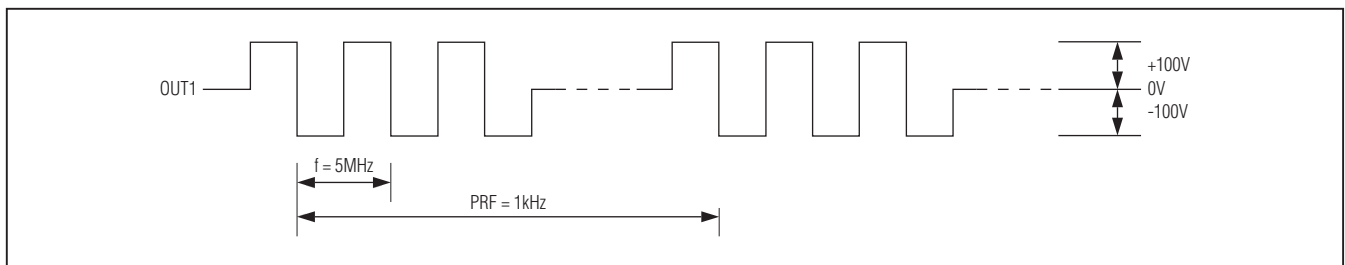

Figure 2. MAX4806 OUT1 Waveform
- 14) Verify that the signal on the OUT1 pad is similar to the waveform shown in Figure 2.